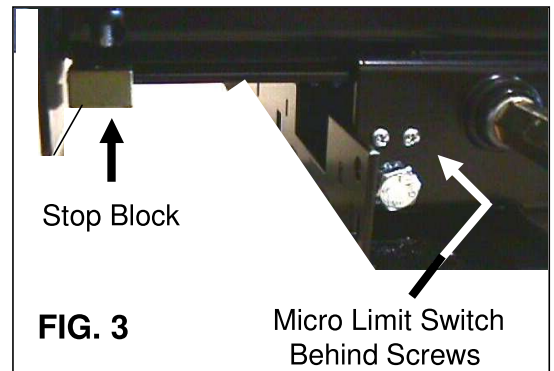

FIG. 3
4. As the slide room nears full extension or retraction, be careful not to crank the micro limit switch stop block beyond the limit switch. [See Fig. 3]